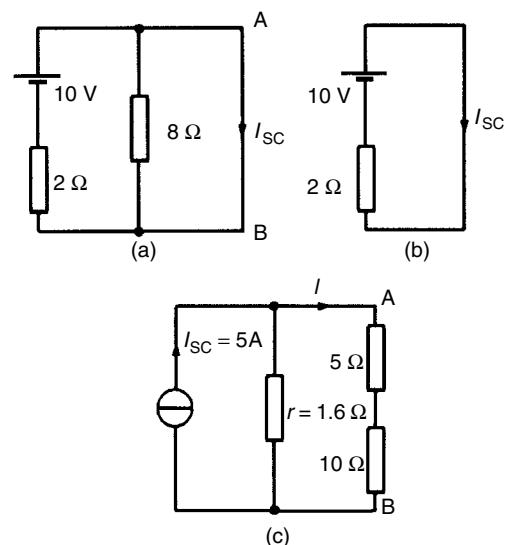

Figure 13.54
- The branch containing the 10Ω resistance is short-circuited as shown in Fig. 13.54(a)
- Fig. 13.54(b) is equivalent to Fig. 13.54(a).
- If the 10V source of e.m.f. is removed from Fig. 13.54(a) the resistance 'looking-in' at a break made between A and B is given by:
- (iv) From the Norton equivalent network shown in Fig. 13.54(c) the current in the 10Ω resistance, by current division, is given by: